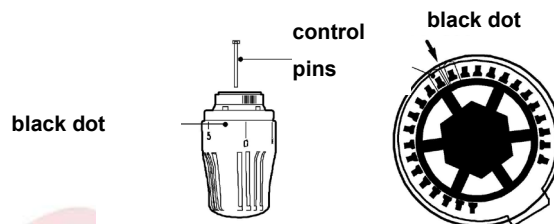

Figure 6
2. Find the black dot - see Figure 6 - and insert a pin on either side of the dot.